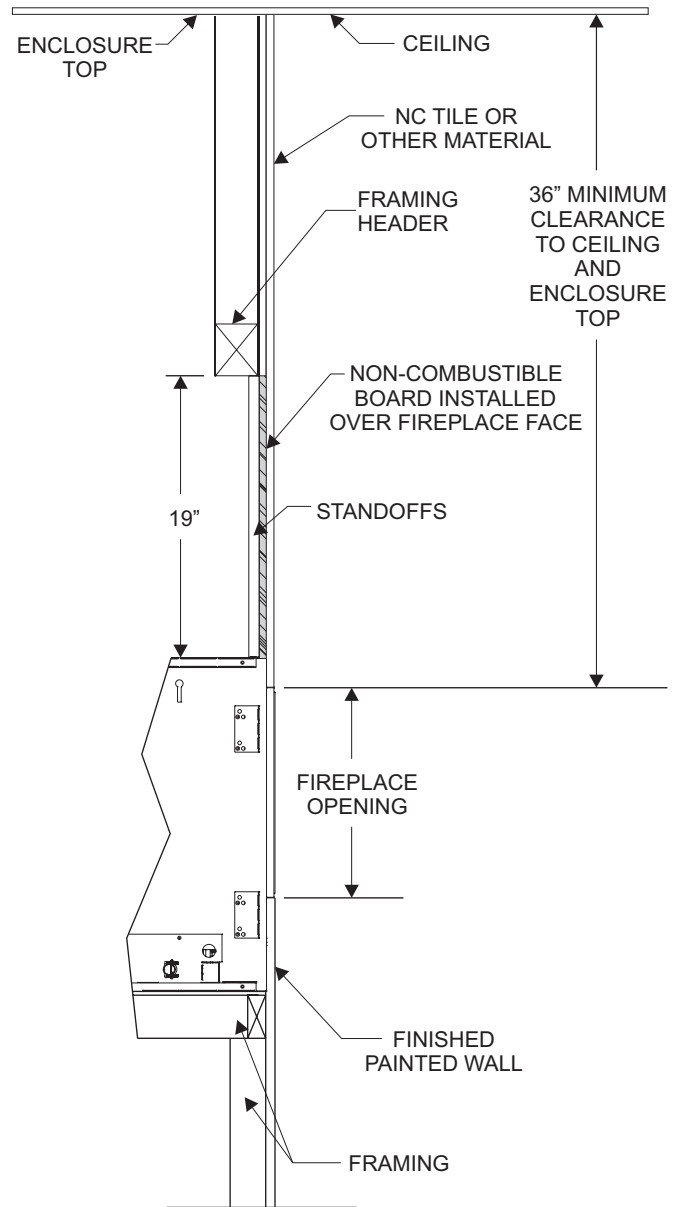

**Figure 51**
- Screws are allowed in framing and top mounting brackets. No screws are allowed into the fireplace face. **See Figure 51.**